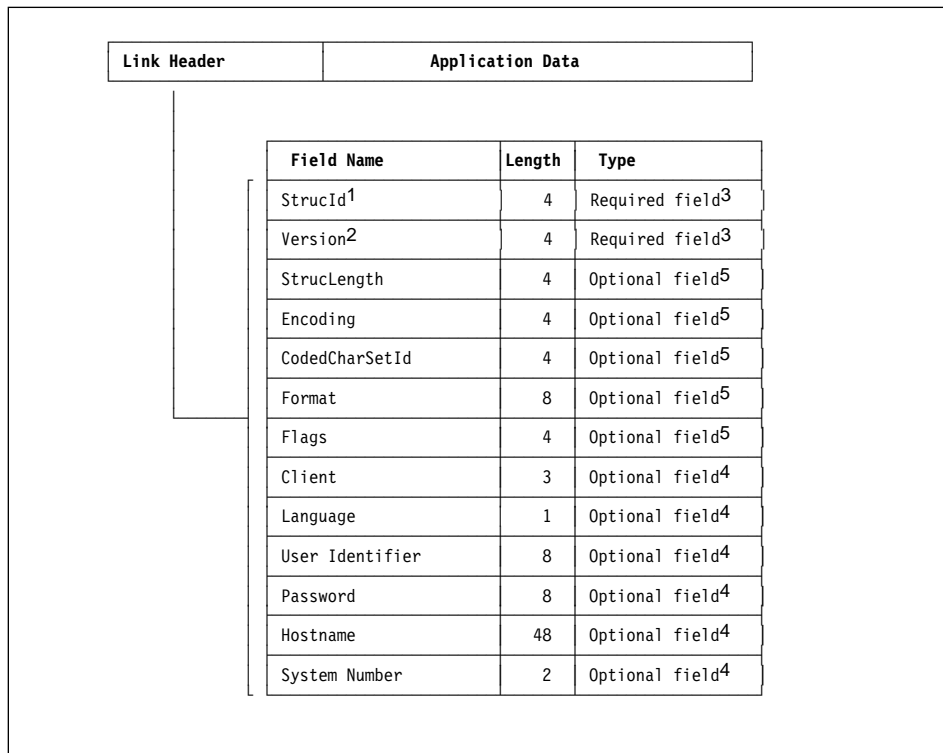

Figure 19. Structure of the SAP link header
2. The message data begins with a link header that is used by the SAP link software (and in some cases by non-SAP applications). The link header contains information to identify the destination of the message. Figure 19 on page 44 shows the details of the SAP link header structure.